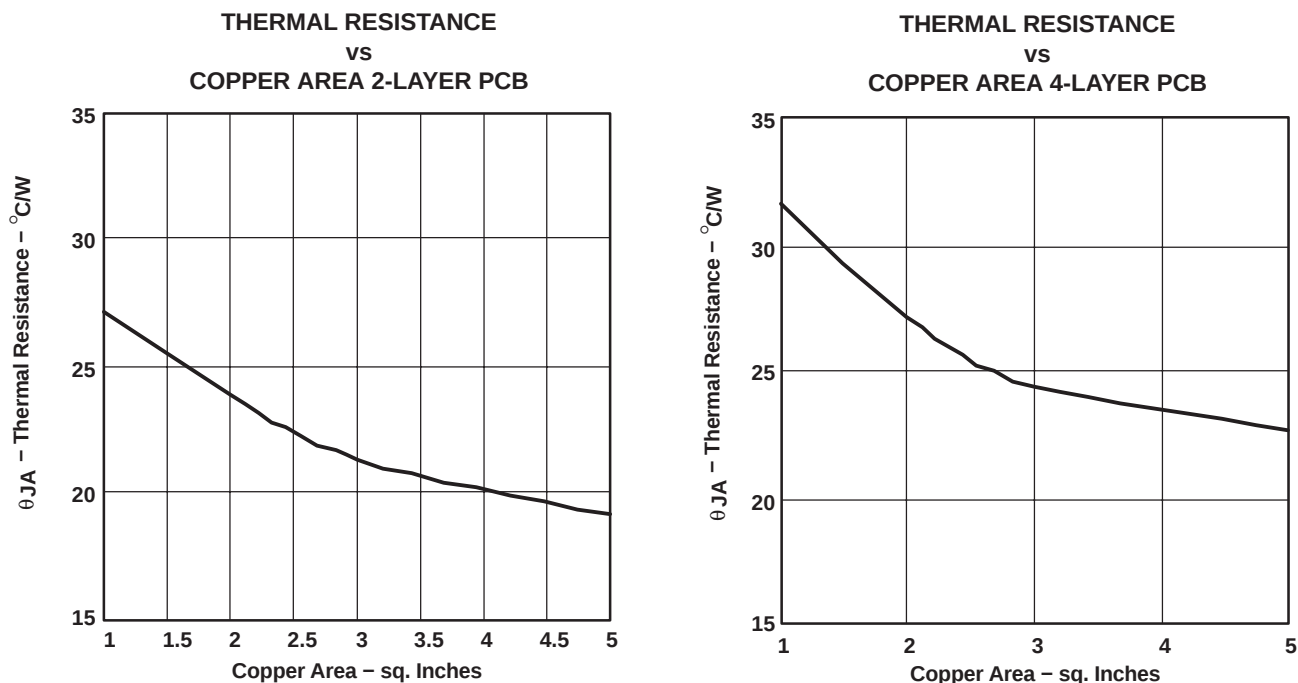
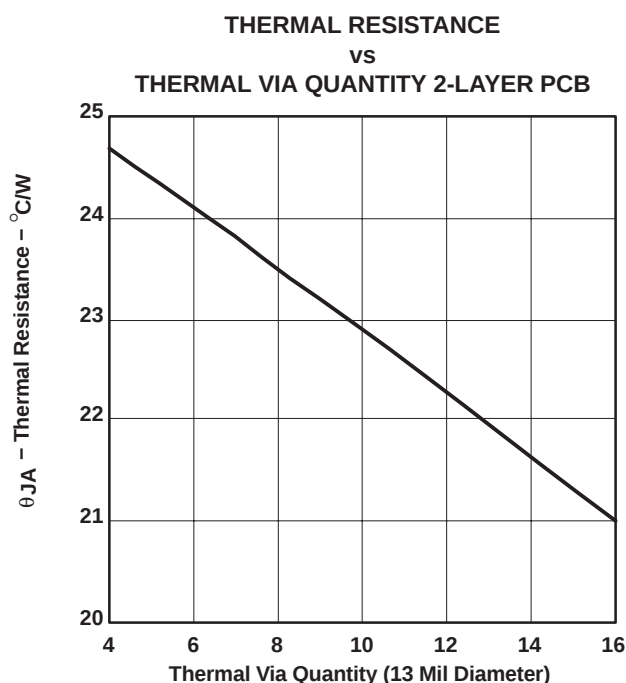

Figure 47. Thermal Resistance
Figure 48. Thermal Resistance
$$\Theta_{JA} = 19^\circ C/W \quad (2\text{-Layer PCB, 5 sq. in. copper, see Figure 47}) \quad (8)$$
Figure 47 and Figure 48 show the results of several thermal experiments conducted with the TPA3004D2. Both figures show that the best thermal performance can be achieved with more copper area for heat dissipation and an adequate number of thermal vias.
Figure 47 shows two curves for a 2-layer and 4-layer PCB. The 2-layer PCB layout was tightly controlled with a fixed amount of 2 oz. copper on the bottom layer of the PCB. The amount of copper is shown on the x-axis. Nine thermal vias of 13 mil (0.33 mm) diameter were drilled under the PowerPad and connected to the bottom layer. The top layer only consisted of traces for signal routing.
Figure 48 shows the effect of the number of thermal vias drilled under the PowerPad on the thermal performance of the PCB. The experiment was conducted with a 2-layer PCB and 3 square inches of copper on the bottom layer. For the best thermal performance, at least 16 vias in a 4x4 pattern should be used under the PowerPAD. Refer to the TPA3004D2 EVM User's Manual, SLOU115, for an example layout with a 4x4 via pattern. PCB gerber files are available at request.